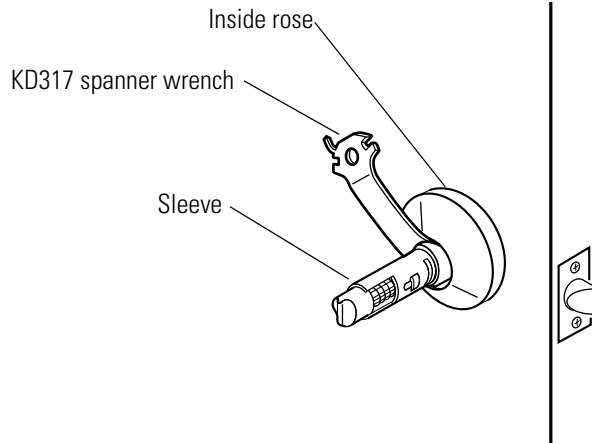

Figure 3.25 Removing the inside rose with the KD317 spanner wrench
2. Insert the solid, curved end of the KD317 spanner wrench in between the rose and the sleeve, as shown in Figure 3.25. Pry the rose until it pops off of the liner.